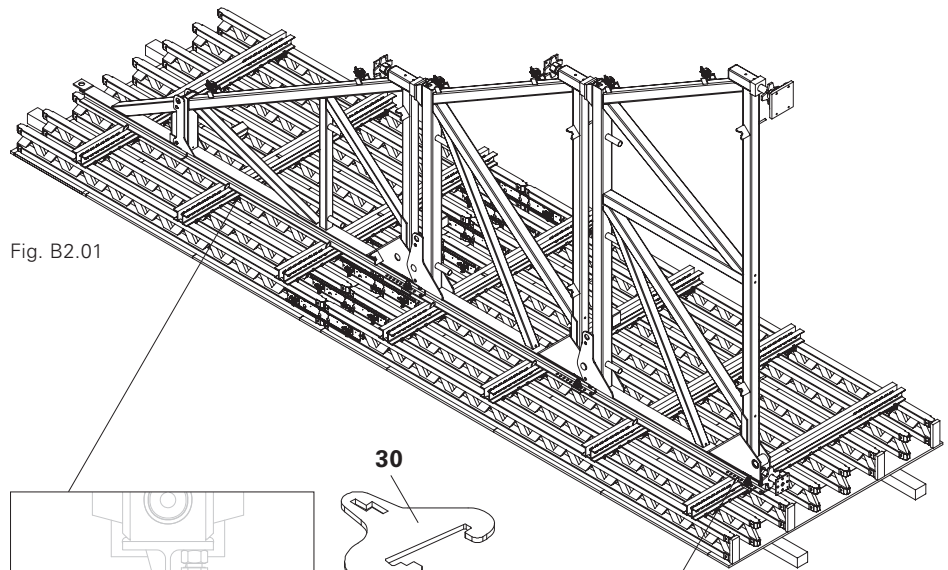

Fig. B2.01
7. Brace the Brace Frames with scaffold tubes (horizontal and vertical), see B3. (Fig. B2.01 - B2.01c)